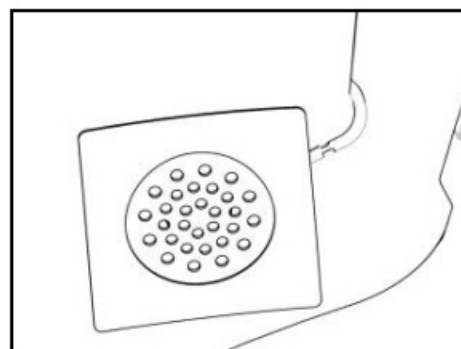

Fig. 47
- Position the left-hand side speaker in the cheek pad housing and secure it using the specific adhesive (Fig. 47).